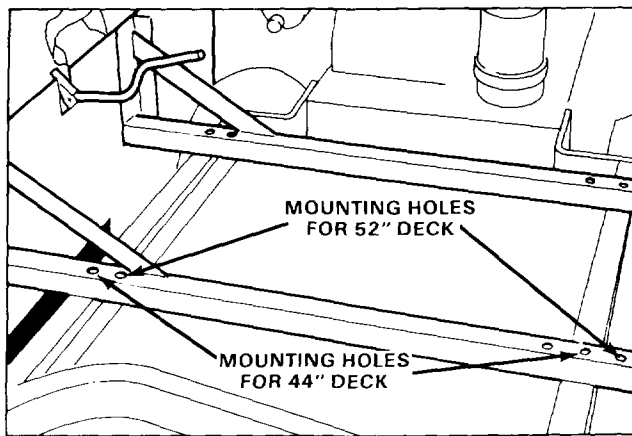
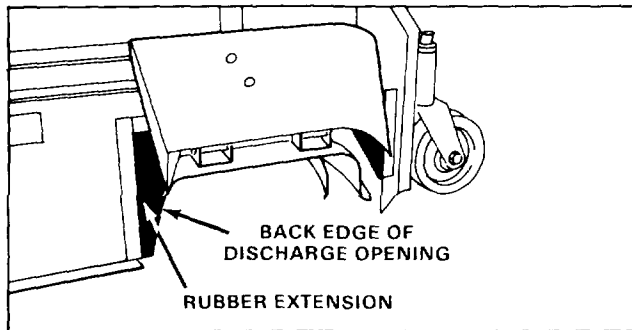

Figure 4
Figure 5
2. Position back panel and mounting beam assembly onto cutting deck and carrier frame, aligning appropriate mounting holes with carrier frame (Fig. 4). Rubber extension should be touching back edge of discharge opening (Fig. 5).